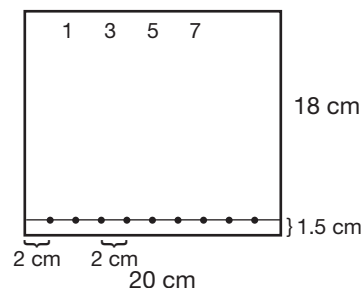

Figure 3.
2. Using a ruler and pencil, draw a faint line 1.5 cm from the bottom across the entire width of the paper (see Figure 3).
3. Using the same ruler and pencil, draw eight small dots. Measure 2 cm from one edge for the first dot and then add a dot every 2 cm across the line. Label the dots (see Figure 3).